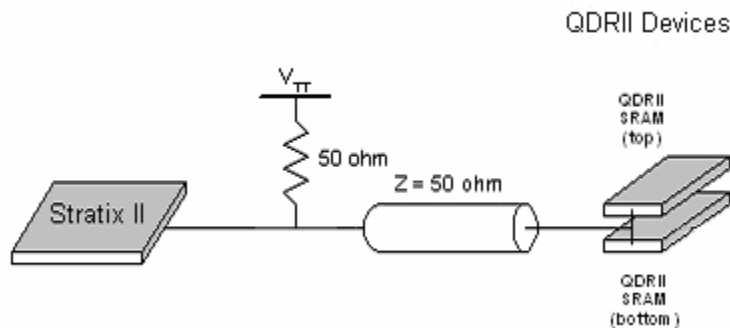

Figure 4-5 (Q and CQ signals)
12. QDRII output signals that are double-loaded (one connection to Stratix and two connections to QDRII) such as Q, CQ should be routed in a Y-shaped or T-shaped connection with the memory-side termination resistor. The general idea is shown in Figure 4-5.